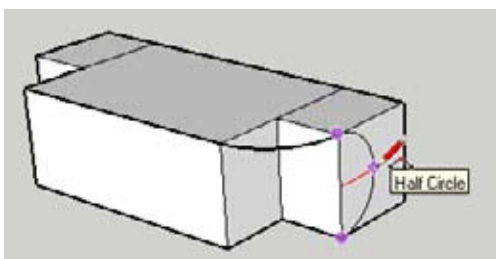

Figure 2-87
7. Add a vertical arc on the side of the smaller box (Figure 2-87).